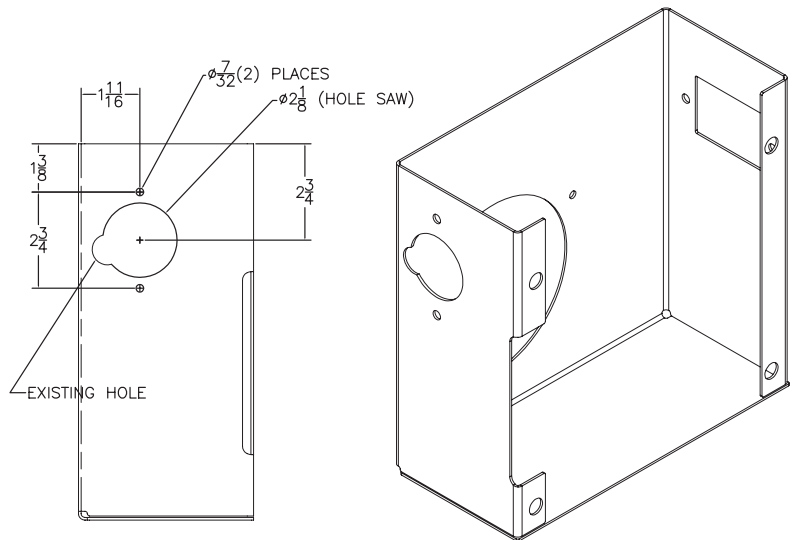
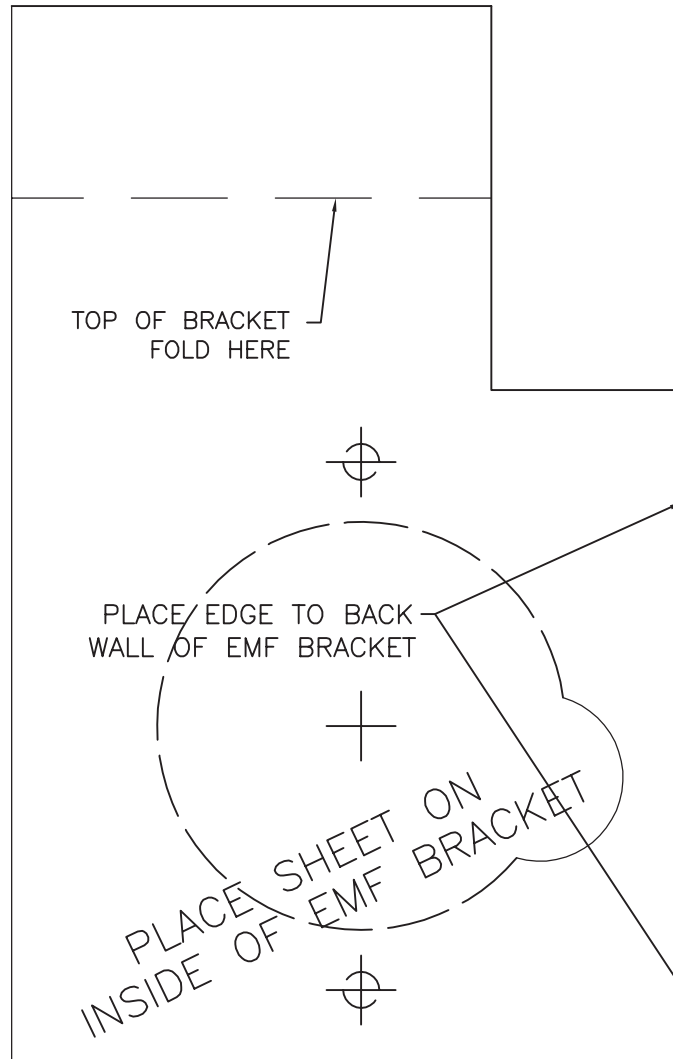

Figure 3 (Hole Location Drawing)
Figure 5 (Drill Hole Pattern)
2. Place the drill hole pattern (Figure 5, back page) on the inside of the EMF housing, and drill the three holes indicated in Figure 3.